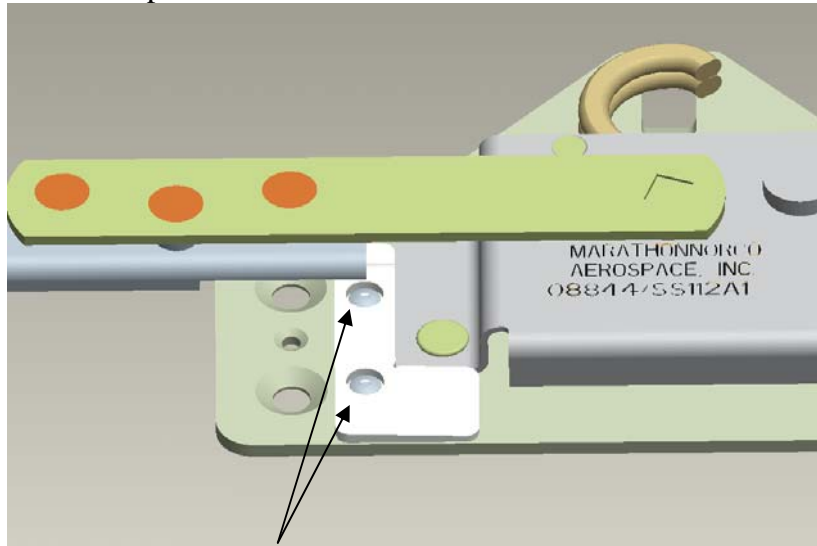

Figure 4: Installation of Screws
- f. Install base plate Block Spring in the orientation shown in Figure 4 using the 2 screws 63C0112-20 provided in the rework kit.